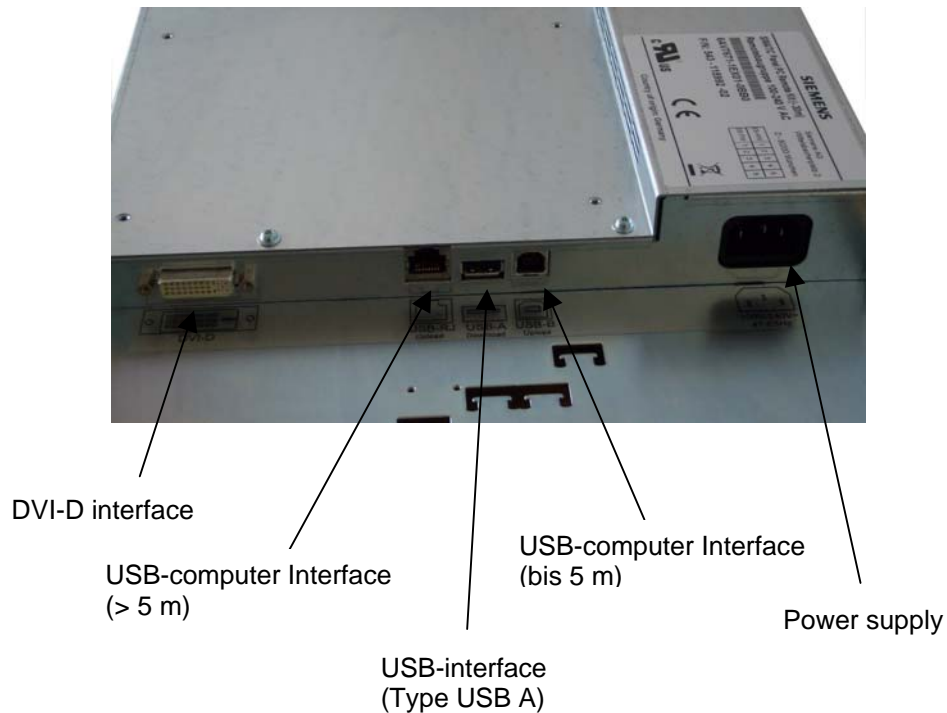

Fig. 12: Location of the interfaces on the remote device
3. Plug the USB cable in the USB interface (upload) of the control unit (see Fig. 12)
4. Fig. 12)